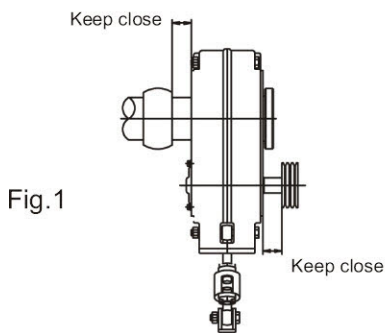

Fig.1
1. Install pulley on gearbox input shaft as close to the reducer as possible, and mount reducer on driven shaft as close to bearing as practical (See Figure 1) . Failure to do this will cause excess loads in the input shaft bearings and output bearings and could cause their premature failure.